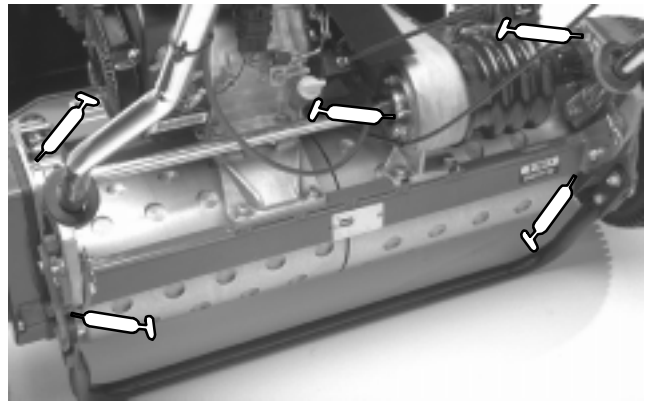
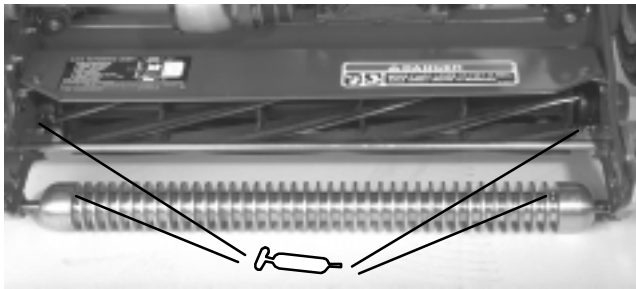
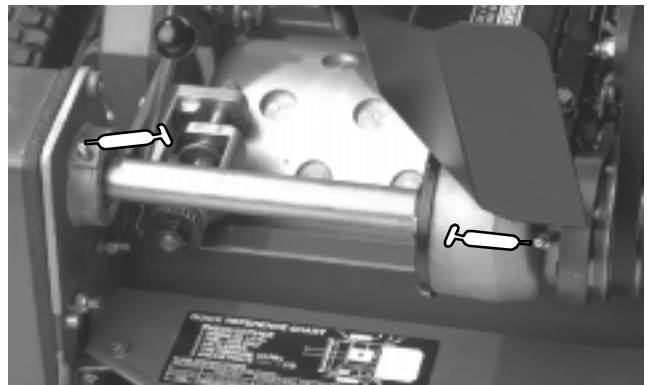
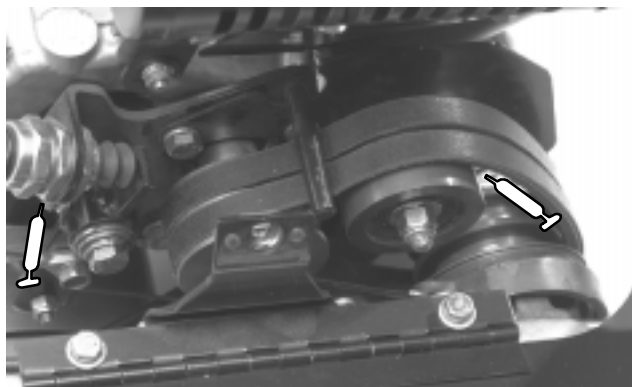

Figure 23
Figure 22
Figure 24
Figure 25
2. The grease fitting locations are: (2) on Front Roller (Fig. 22), (2) on reel bearings (Fig. 22), (2) on Drum Axles (Fig. 23), (3) on Differential (Fig. 23), (2) on Reel Countershaft Bearings (Fig. 24) and (2) on Belt Idler Pivots (Fig. 25).